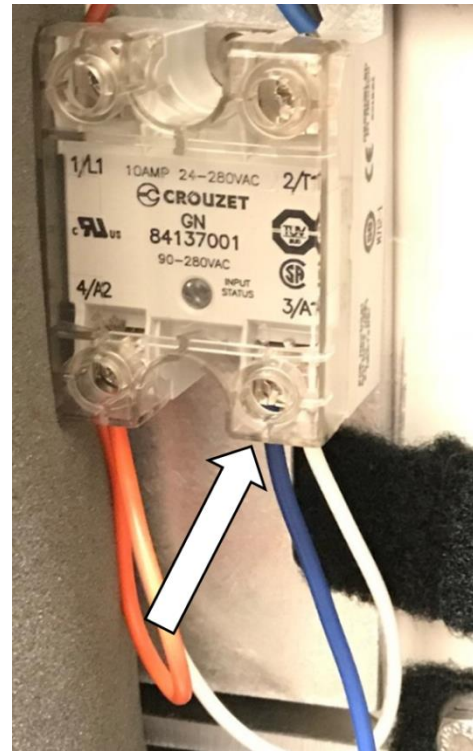

Fig. 4
6. Install the blue wire into the bottom right terminal (3/A1) of relay (95-0328) with the white wire. (Fig. 4)